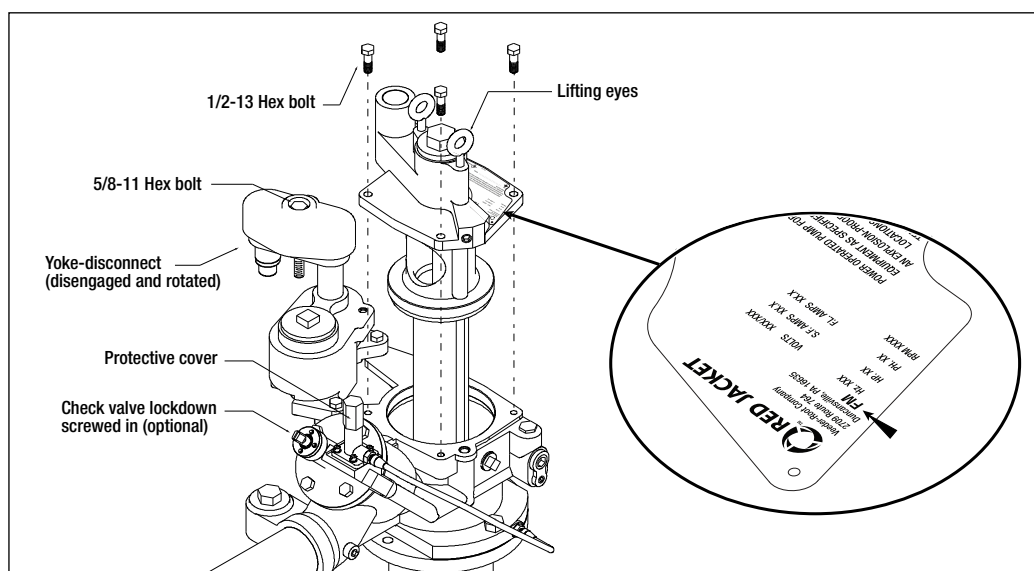

Figure 15. Maxxum - Extractable Section Showing 'FM' On Nameplate
Only Pump Motor Assemblies listed in Table 11 are compatible with the Maxxum Pump. These are marked with an “FM” on the nameplate (Figure 15).
2. Unscrew the 5/8-inch bolt and pull the yoke up and rotate it 90° counterclockwise (see Figure 15).